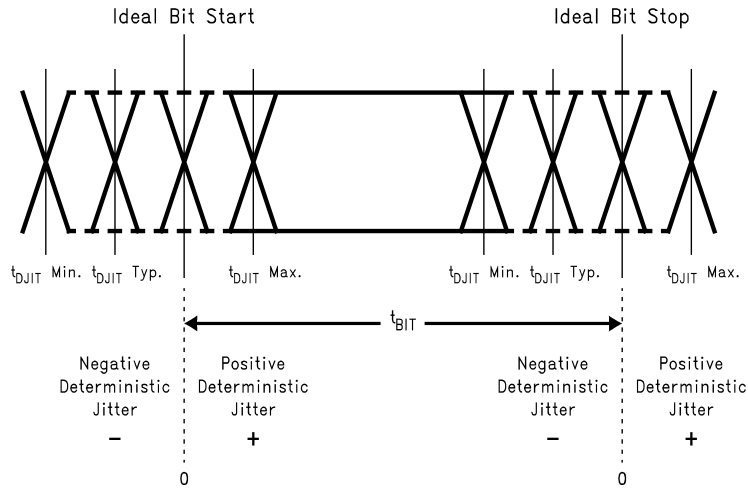

Figure 10. Deterministic Jitter and Ideal Bit Position
(4) t_{RJIT} specification is the rms jitter measurement of the serializer output when the device is transmitting SYNC pattern.
(5) t_{DJIT} specification is measured with the serializer output transmitting checkerboard patterns. It is a measurement of the center distribution of 0V (differential) crossing in comparison with the ideal bit position. See Figure 10.